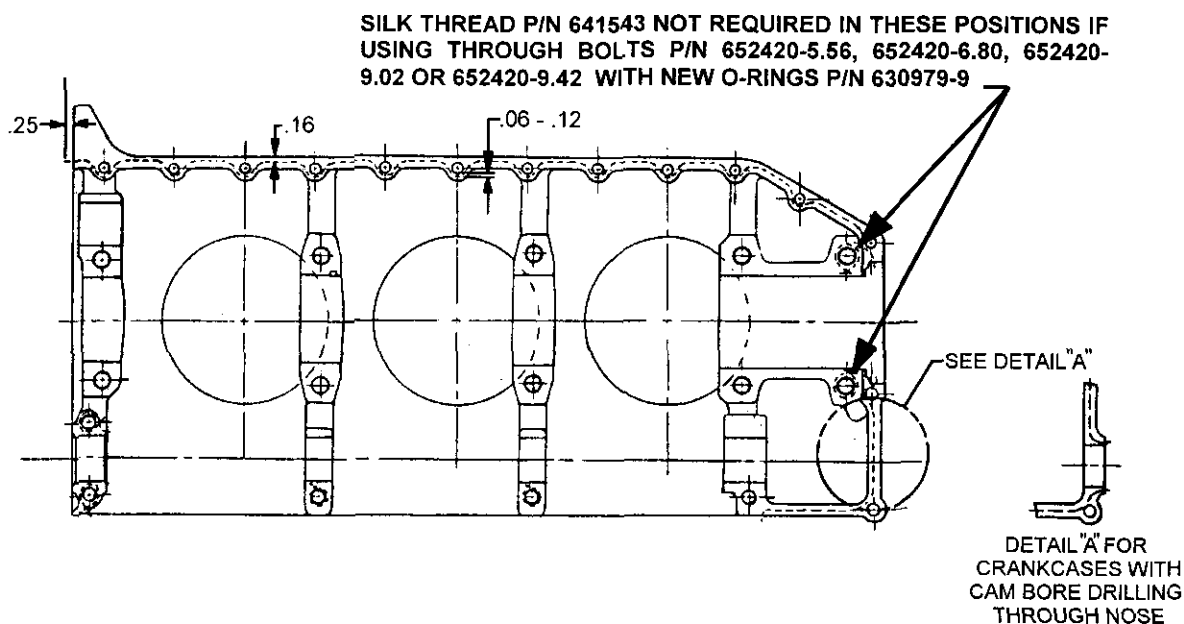

FIGURE 4. I0360, L/TSI0360 CRANKCASE THREADING DIAGRAM
4. Apply and position grade D silk thread P/N 641543 on 2-4-6 case half as specified in Figure 4. Be sure free ends of thread are covered by gaskets except at the nose oil seal.